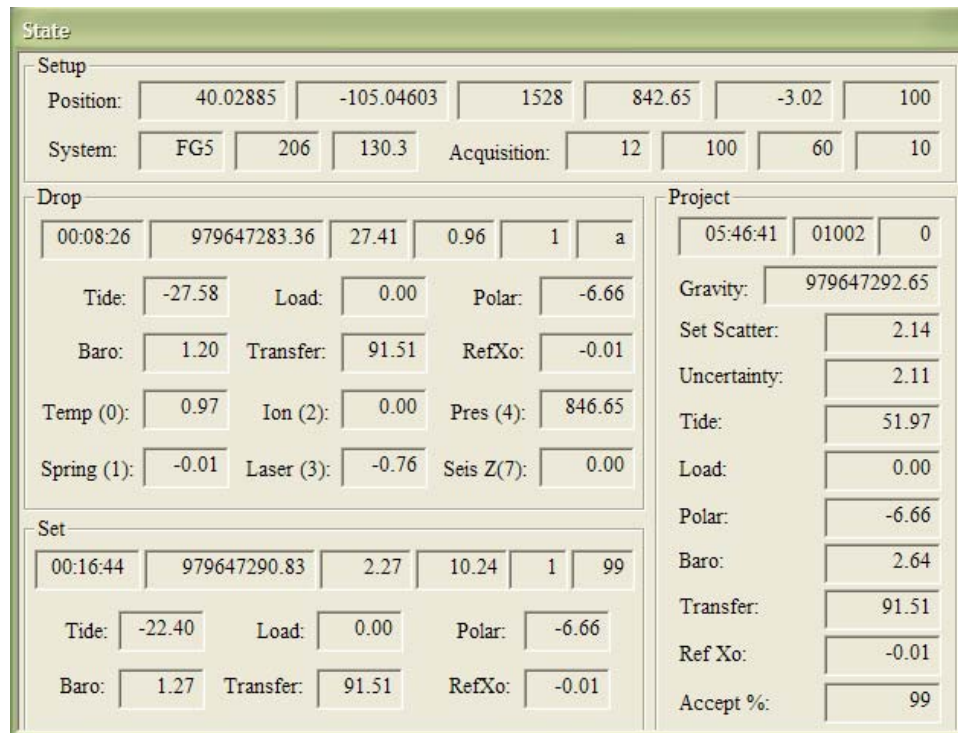

Figure 14. State Window
Figure 14 is another look at the State Window (also shown above).
As previously mentioned, the State Window is always displayed and contains the most information of any of the twelve views. In Figure 14, basic project setup information is shown in the top window including the position (40.02885, -105.04603, 1528), nominal pressure (842.65), gradient (-3.02), the instrument type and serial number, (FG5 206) and the acquisition parameters (12 sets, 100 drop/set, 60 minute set intervals, 10 second drop intervals). In order to display information to the user and keep the view uncluttered, many of the boxes are not labeled. However, by “hovering” the mouse cursor over each box, a “tool tip” including units will appear with a description of the value.
The second box (Drop) contains information pertaining to the current drop being processed. In the case of Figure 14, the drop is 100. The time of the drop is displayed (01:24:56), the corrected absolute gravity value of the last drop (979647287.69), the standard deviation of the drop (26.39), the RMS of the drop fit (nm) (0.93), the drop number (100), whether or not the drop was accepted or rejected and the peak lock (“aE” implies accepted, E lock). The next six boxes show the corrections in μGal for tide (25.00), ocean loading (0.0), polar motion (-6.66), barometric (1.80), datum transfer (91.51), and reference Xo (0.01). The final six boxes show the current value of the sensor channels for ONLY the first six channels. All values are listed in Volts and correspond to the standard patch panel configuration on all Micro-g instruments.
The third box (Set) contains information pertaining to the current set being processed. In the case of Figure 14, it is Set 2. The average time of the accepted drops used to calculate the set mean is displayed (01:16:33), the average corrected gravity value (979647288.94), the uncertainty of the set in μGal (2.33), the drop to drop scatter in μGal (9.19), the set number (2) and the number of drops accepted (97). The next six boxes display the average value of the corrections applied in μGal : tide (18), ocean loading (0.00), polar motion (-6.66), barometric (1.71), datum transfer (91.51) and reference X_0 (0.01).